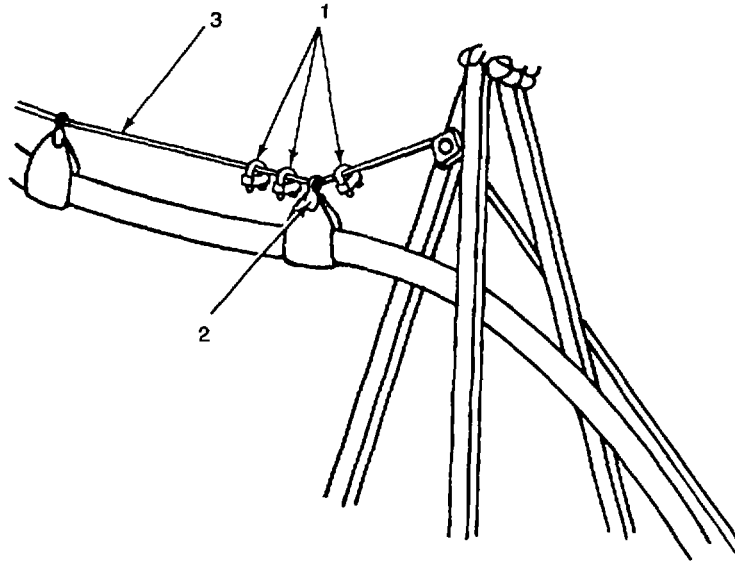

Figure 2-37. End Shackle Clamps
- (4) Remove U-bolt damp (1, Figure 2-37) used to secure end shackles (2) to wire rope (3).